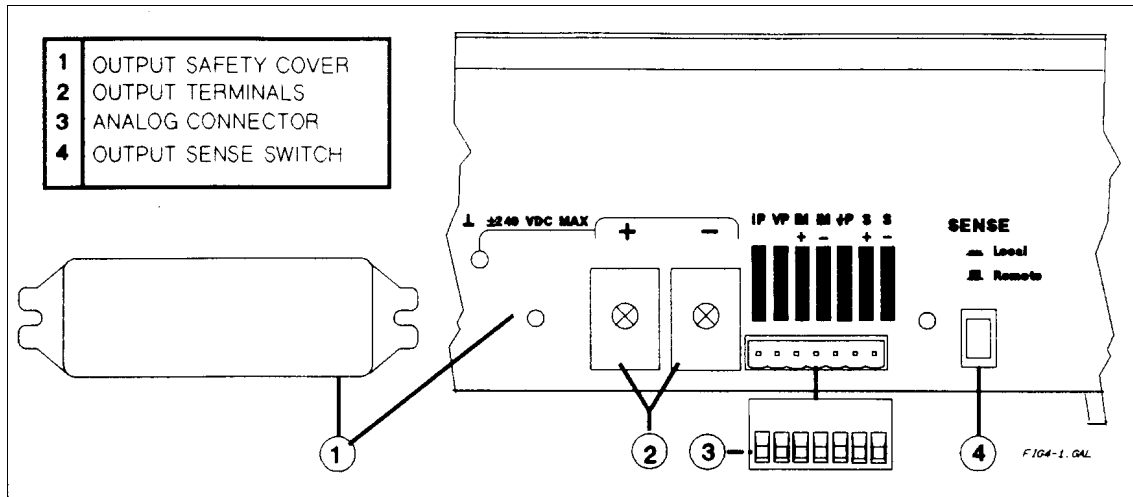
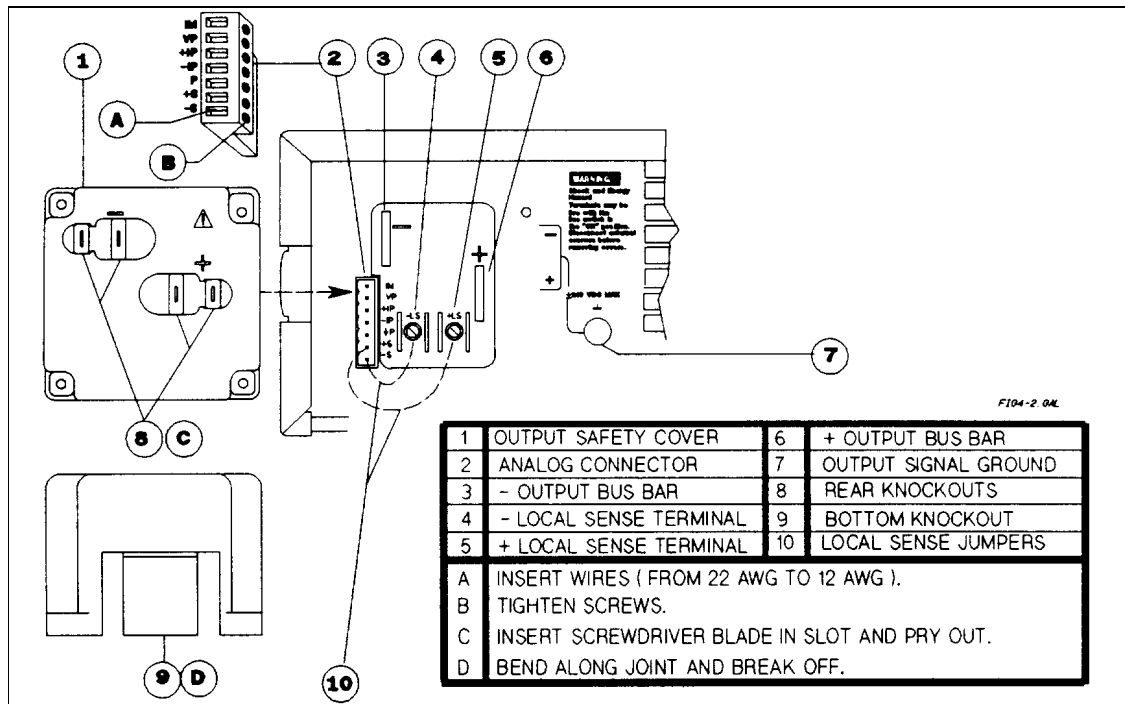

Figure 4-1. Series 654xA and 655xA Rear Panel Connections
Figure 4-2. Series 657xA Rear Panel Connections
The + and - load connections are made at the rear panel. Depending on the model (see Figure 4-1 or Figure 4-2), either terminals or screw-down bus bars (+ and -) connect the load to the power supply. The general procedure is as follows:
- make a suitable opening in the output safety cover by removing one or more cover knockouts (see Figure 4-2).
If cabling considerations require the use of distribution terminals that are remotely located from the supply, connect the output terminals to the distribution terminals by a pair of twisted or bundled wires. Use separate wires for connecting each load to the distribution terminals. In these circumstances, remote voltage sensing is recommended (see “Remote Voltage Sensing”). Sense either at the remote distribution terminals or, if one load is more critical than the others, directly at the critical load (see dashed lines in Figure 4-1). Note that the power supply's voltage readback occurs at the sense terminals.
Local sensing is obtained by placing the **SENSE switch** (see Figure 4-1) in the **Local** position. The power supply is shipped with the switch in this position.